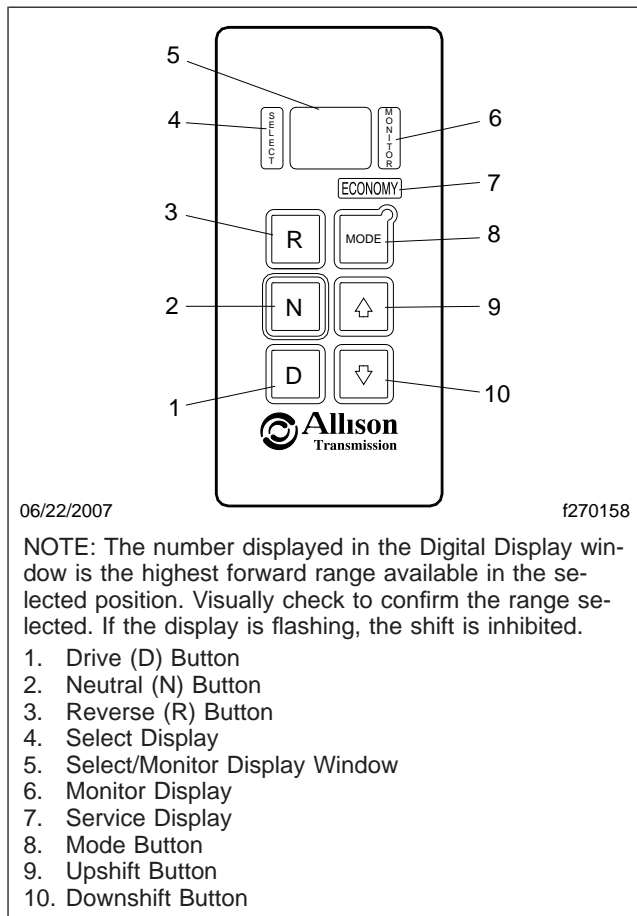

Fig. 7.1, GEN IV Shift Selector
2500, 3000, and 4000 MH series automatic transmissions have six forward speeds and one Reverse (R) speed. These transmissions have electronic shift controls that can be programmed to allow the use of different numbers of geared speeds. See Fig. 7.1. For instance the transmission can be programmed to operate as a 4-speed, 5-speed, or 6-speed unit in the "primary" shift mode. If needed, a "secondary" shift mode can be programmed to provide another shift configuration to optimize vehicle use under different operating conditions. To activate a secondary shift mode, or other special function programmed into the electronic control unit (ECU), depress the Mode button. A label just above the Mode button identifies the special function.